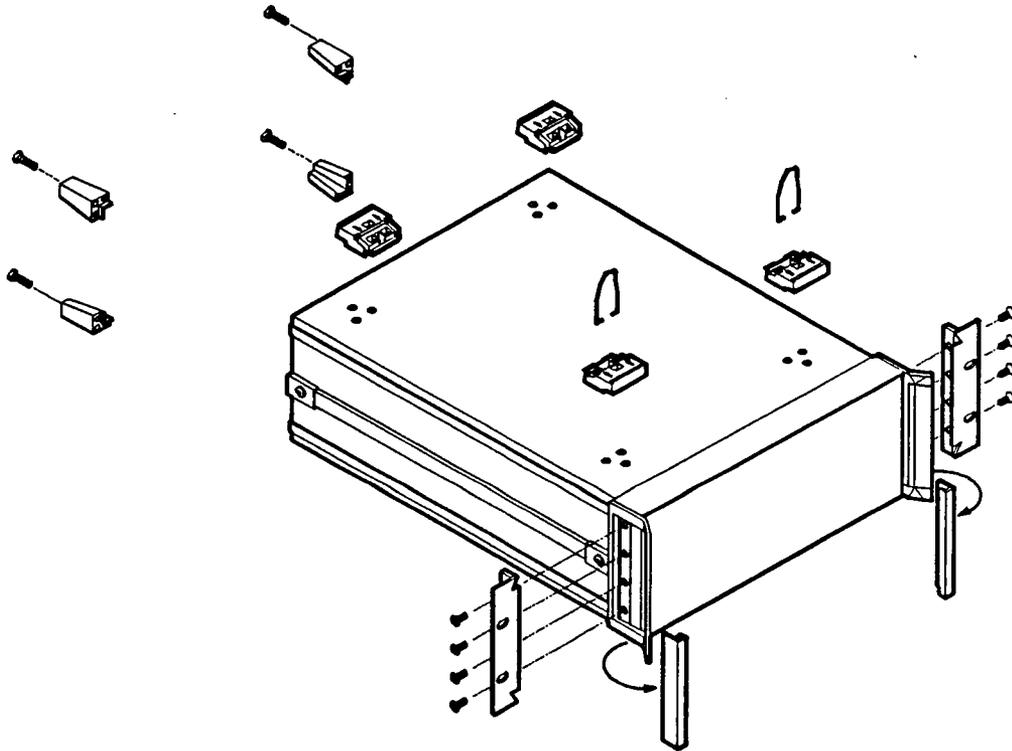

Figure 12-8. Rack Mount Flanges for Synthesizers with Handles Attached
1. Refer to Figure 12-8. Remove the handle trim strips.